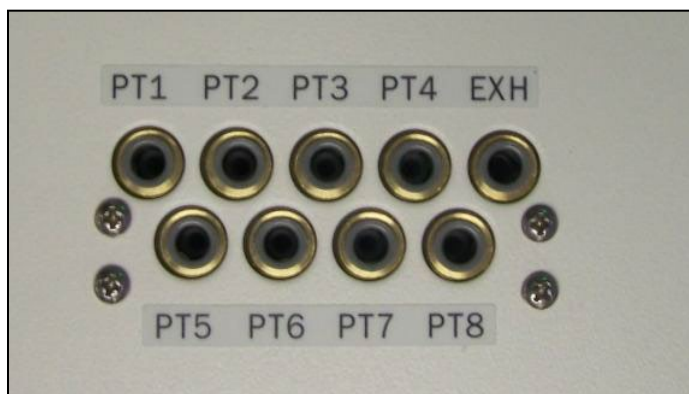

Figure 3.5
- Remove the four (4) mounting screws shown in Figure 3.5 to detach the manifold.